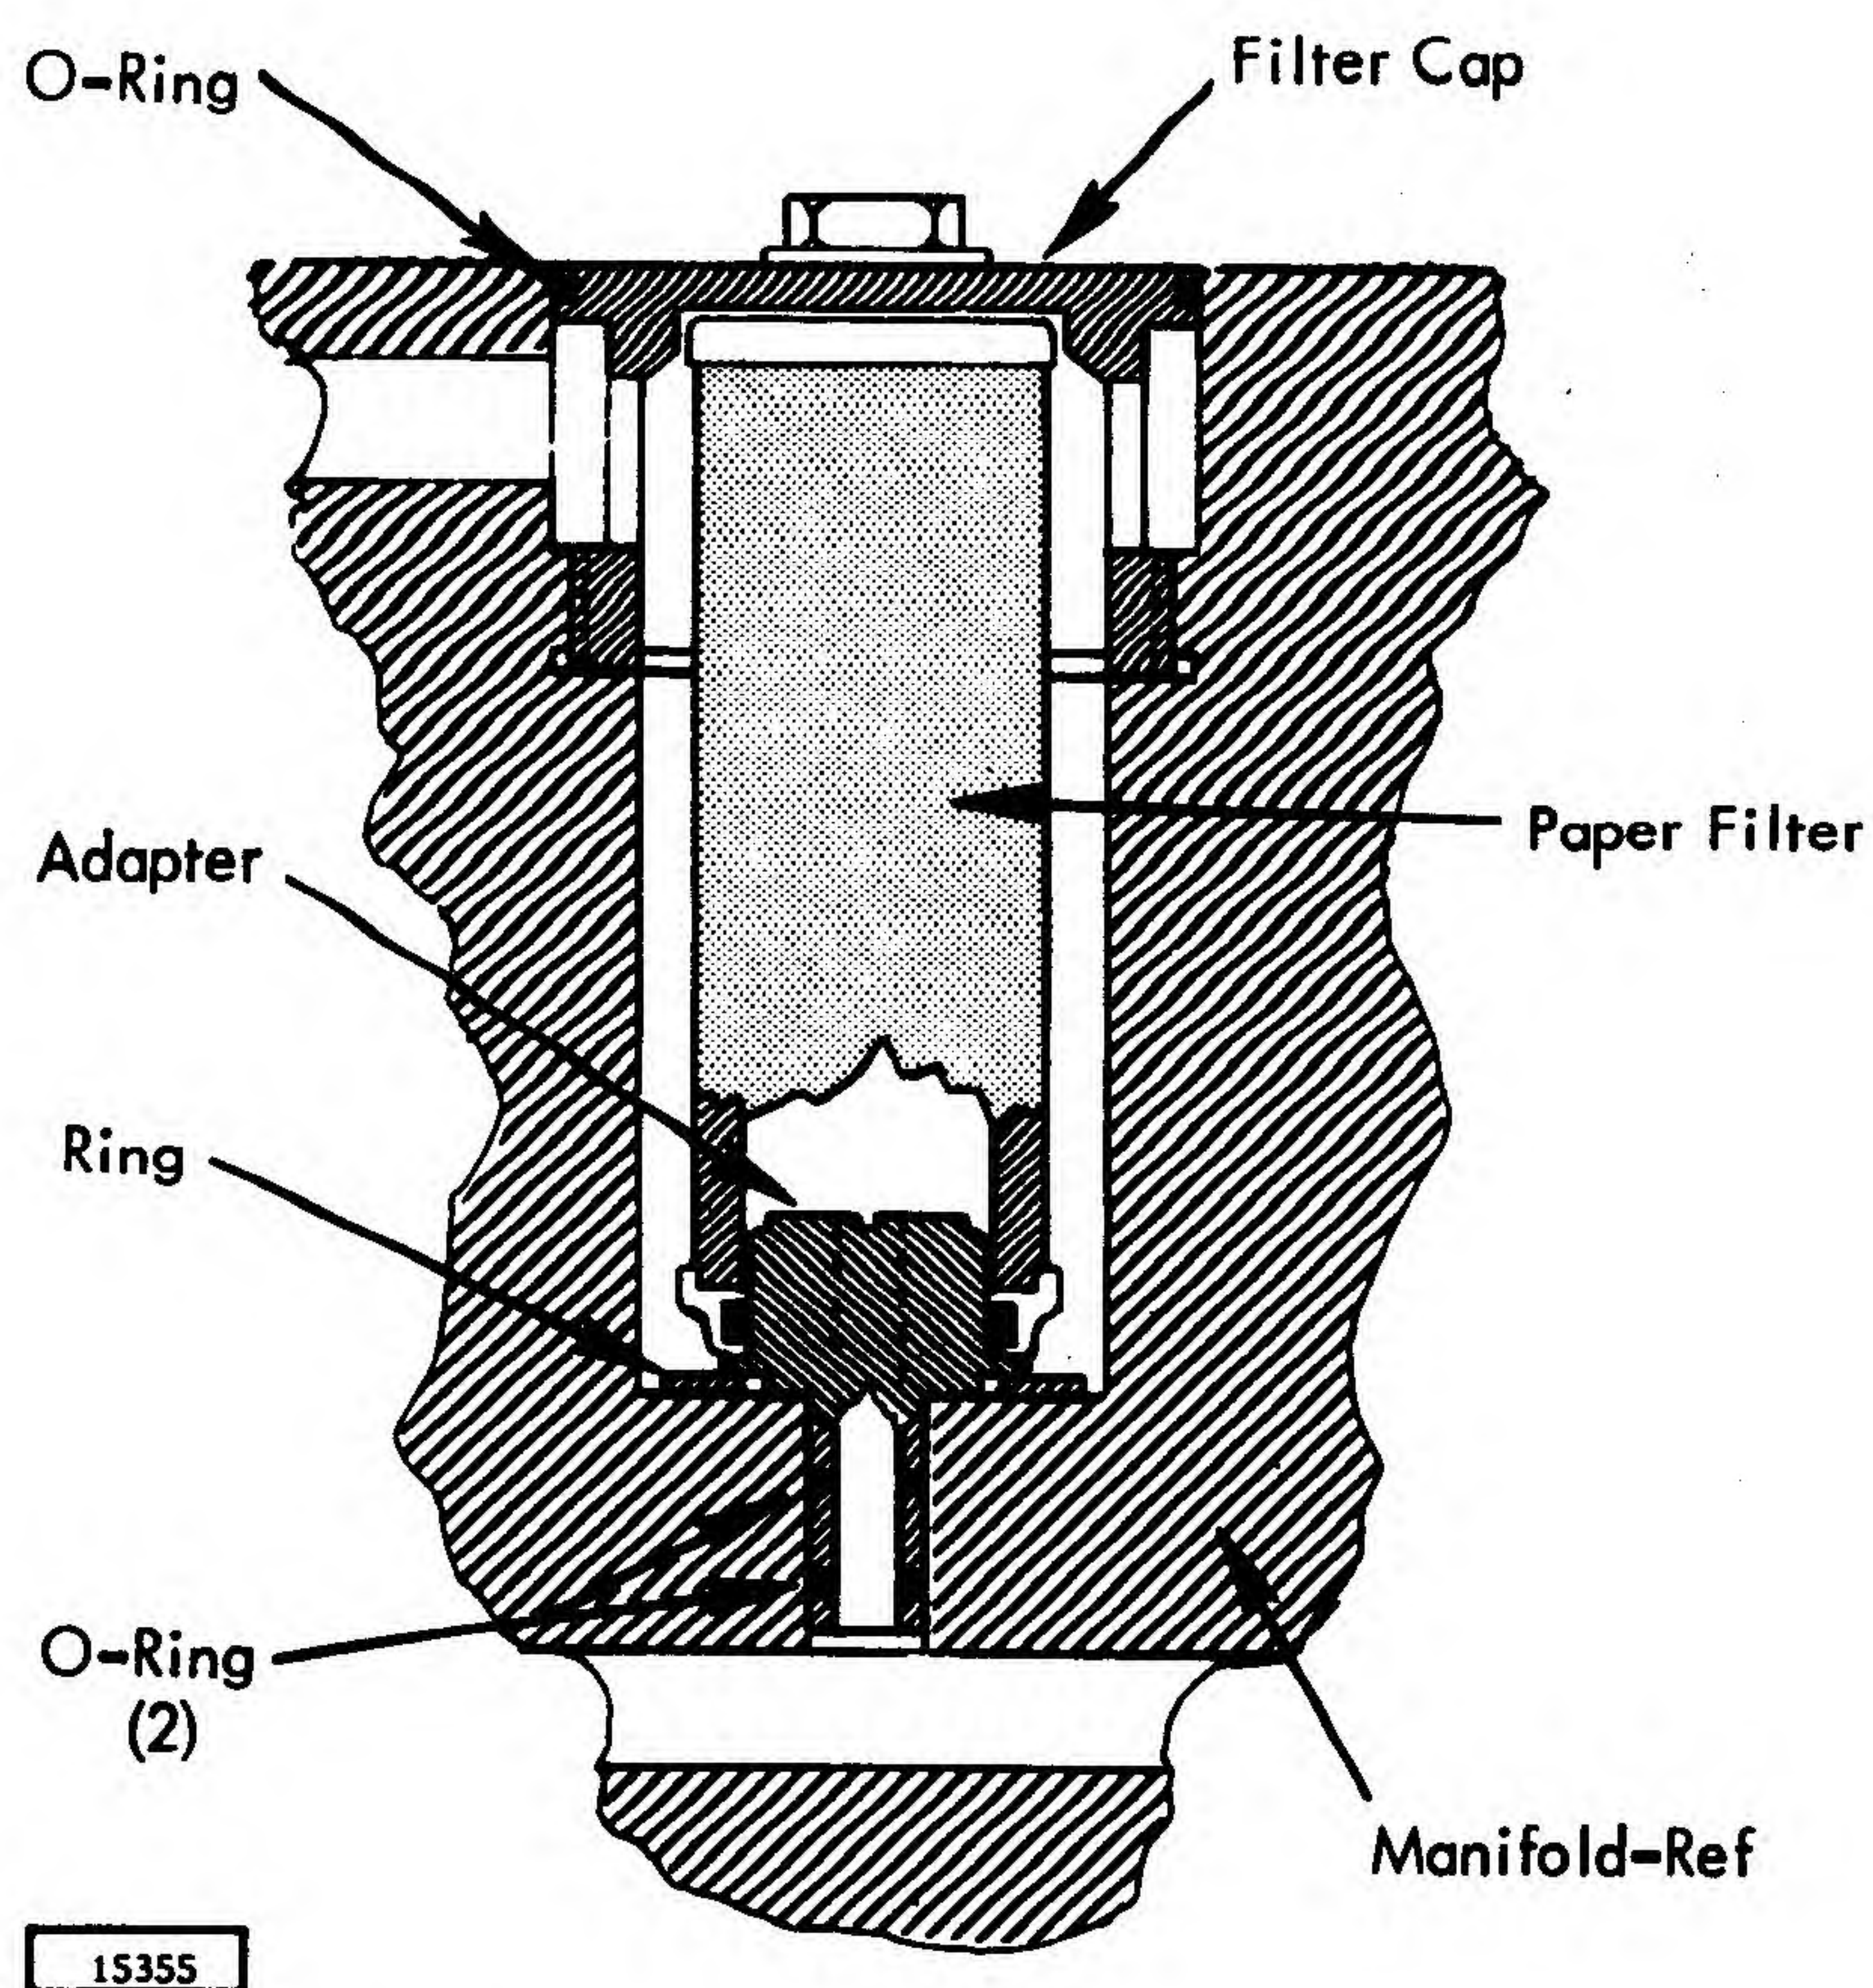

Figure 4-39. Paper Filter Assembly
**Removal and Replacement (Figure 4-39).** The paper filter is to be replaced as follows:
adapter in filter bore and allow to fit into inner diameter of ring. Push the adapter into 1/2 diameter drilled hole at bottom of Filter Cavity. Rotate adapter using proper screwdriver on top slot so that the adapter will center itself in the ring. Do not burr edges of slot. Be sure that the adapter bottoms on the ring and bottom of the bore. See Figure 4-39 for proper fit.
5. Screw Cap into filter Cavity until it just bottoms. Do not tighten further. The top edge of the cap will be approximately flush with the top surface of the Manifold. If the cap does not seat properly, remove the cap and check for proper position of the filter. See Figure 4-39.